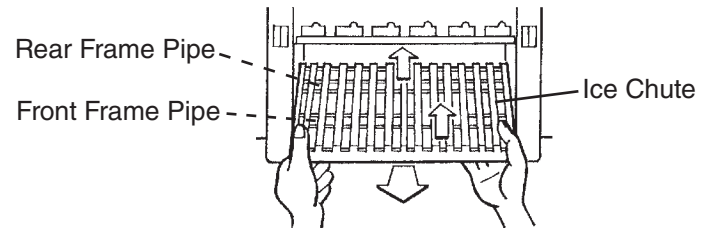

Fig. 39
6. Lift off the ice chute from the front frame pipe and then from the rear frame pipe. See Fig. 39.